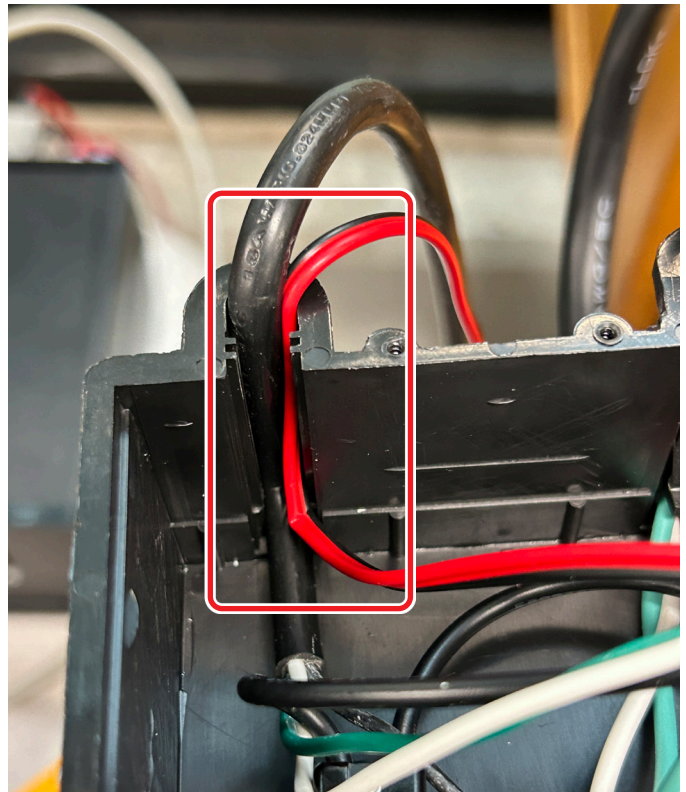

FIGURE 10
H. Then install your wires next to the power cord with enough lead on the inside to connect your wires to the speed control board (see Figure 10).